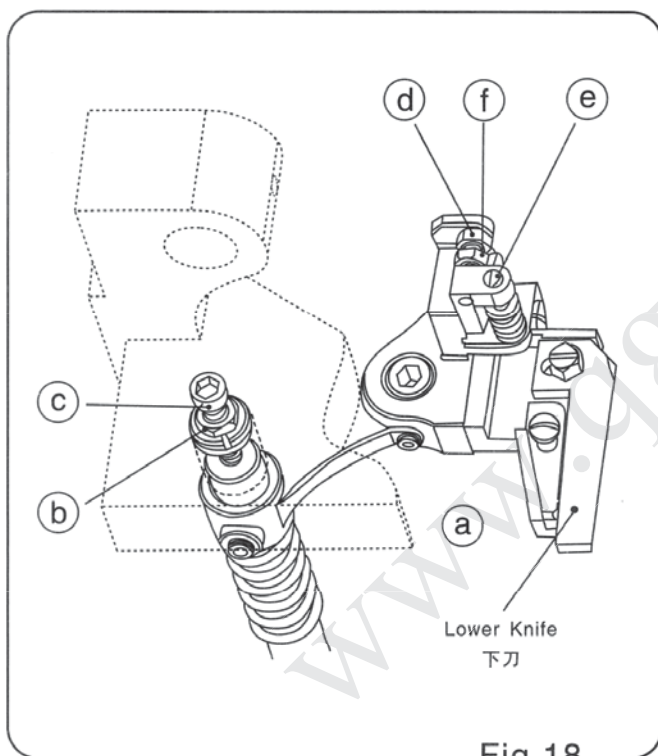

Fig.18
- When you do adjustment as requirement a), (Fig.18) loosen screw ③ and ④, rotary screw ⑤ to make lower blade position reaches requirement a) then tighten.